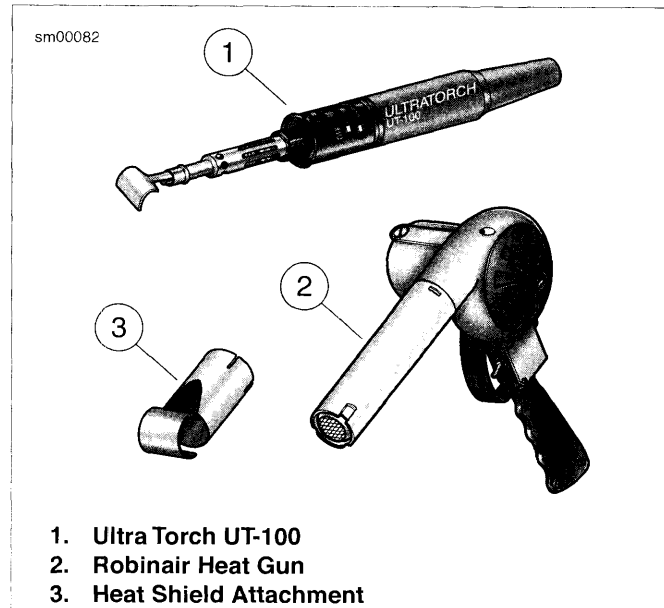

Figure 6-126. Radiant Heating Devices
- See Figure 6-126. Using the ULTRA TORCH UT-100 (Part No. HD-39969) or ROBINAIR HEAT GUN (Part No. HD-25070) with HEAT SHIELD ATTACHMENT (Part No. HD-41183) or other suitable radiant heating device, uniformly heat the heat-shrink tubing to insulate and seal the soldered connections. Apply heat just until the meltable sealant exudes out both ends of tubing and it assumes a smooth cylindrical appearance.